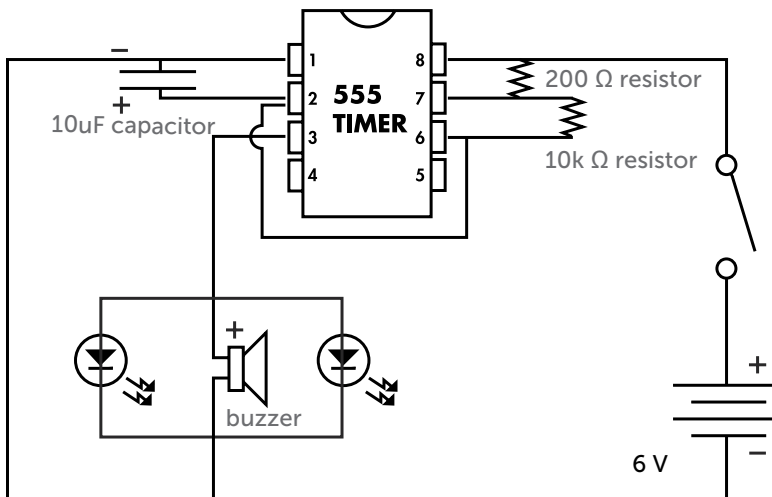
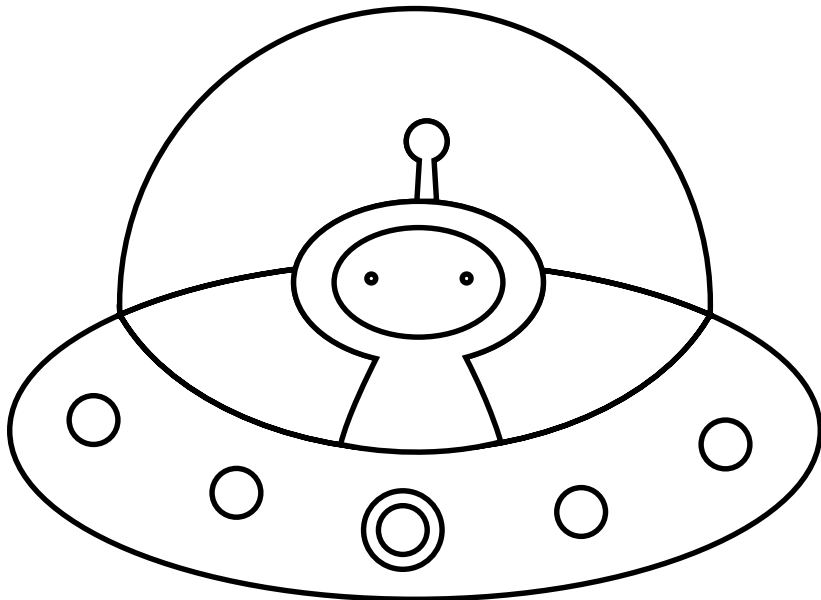

FIGURE 8.5: The 555 timer circuit for blinking LEDs and beeping a buzzer
FIGURE 8.6: The front of our UFO project
The circuit diagram in Figure 8.5 shows how to blink two LEDs using a 555 timer, a 10 microfarad (μF) capacitor, a 200
ohm resistor, and a 10,000 ohm (10k ohm) resistor. The 10k ohm resistor, shown here between pins 6 and 7, is used to control the rate of blinking. If you increase the size of that resistor, the blinking will slow down. As shown in Figure 8.5, you can also add a buzzer in a parallel circuit with two LEDs to make your UFO beep as well as blink.
The circuit in Figure 8.5 makes two LEDs blink and a buzzer make a beeping sound. What suitable project ideas can you come up with that blink and beep? Use your imagination. In our example project, we are going to make a UFO. Make a life-size sketch of your project like the one in Figure 8.6.
As you begin each thread, double-check the circuit diagram in Figure 8.5 to make sure that you are connecting the components properly.
20. Once you're done connecting the pins, double-check that all your parts are connected and in the right places by carefully comparing the circuit diagram in Figure 8.5 and your circuit, which should look similar to this illustration.